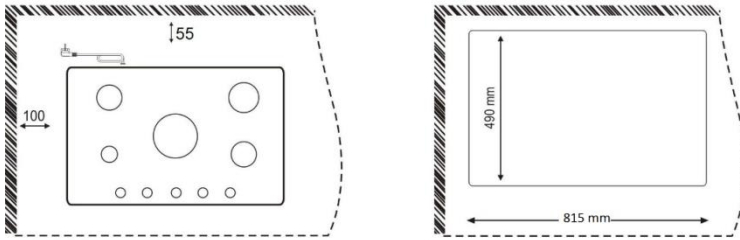

Figure 2
- ❖ The hob has been designed to be fitted into a kitchen unit. It can be fitted either under a worktop or in a taller cupboard unit at eye level. Cut out an opening in the kitchen unit as shown in. **(See Figure 2 and Figure 3)**